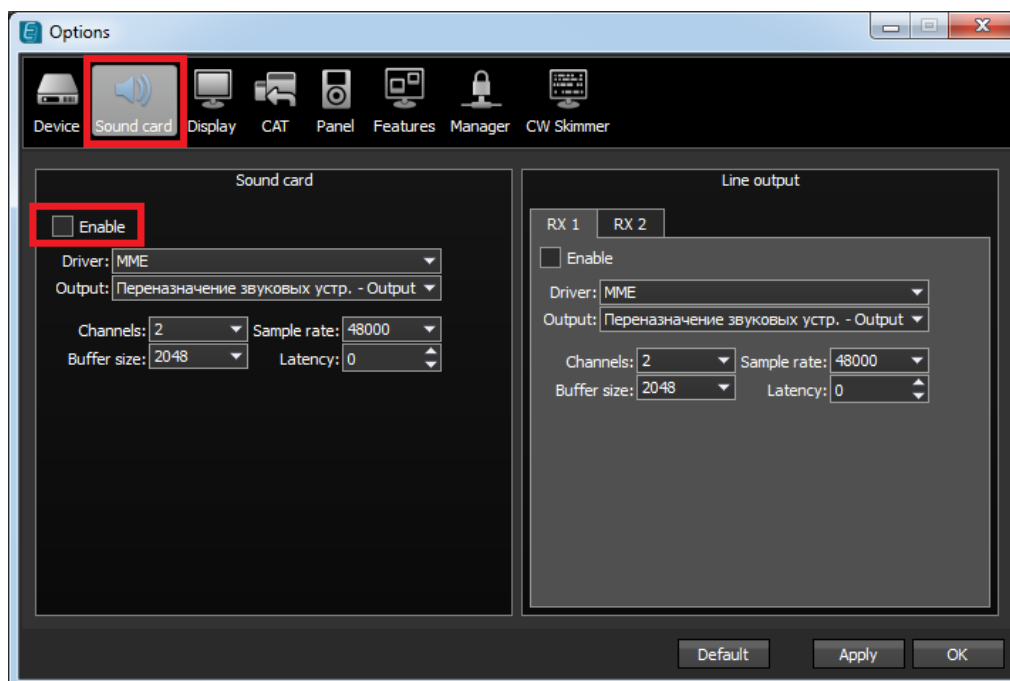

Figure 3.4 – Controlling the microphone inputs of the transceiver
7. Go to **Sound Card** menu and check that the check box enable is removed. See figure 3.4;